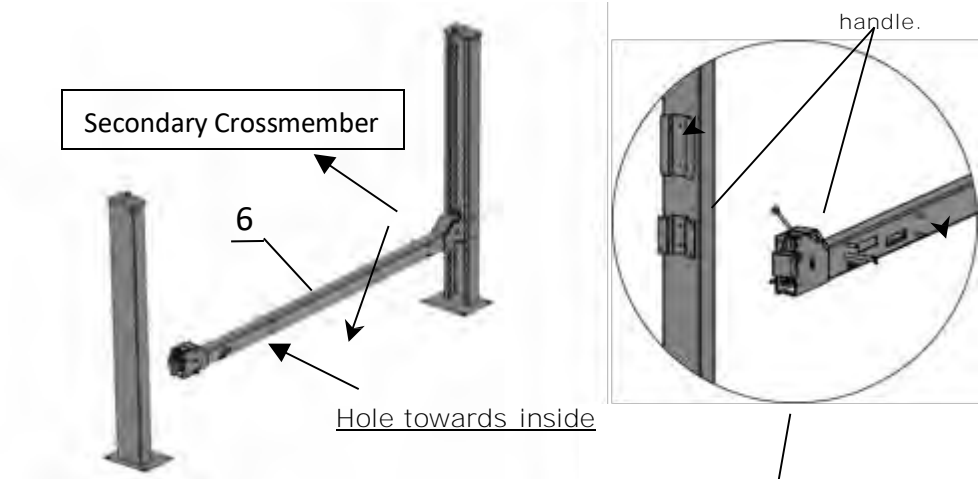

Fig.11
C. Install cross beams (See Fig.11, Fig.12) .